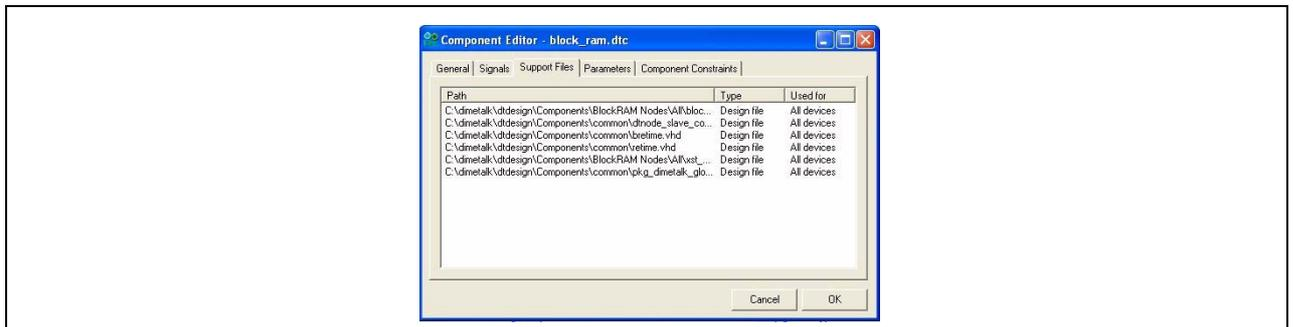

Figure 58: Support Files Tab in Component Editor
9. The Support Files tab, shown in **Figure 58**, displays all the files that are required for any design using this component. Click on 'OK'.